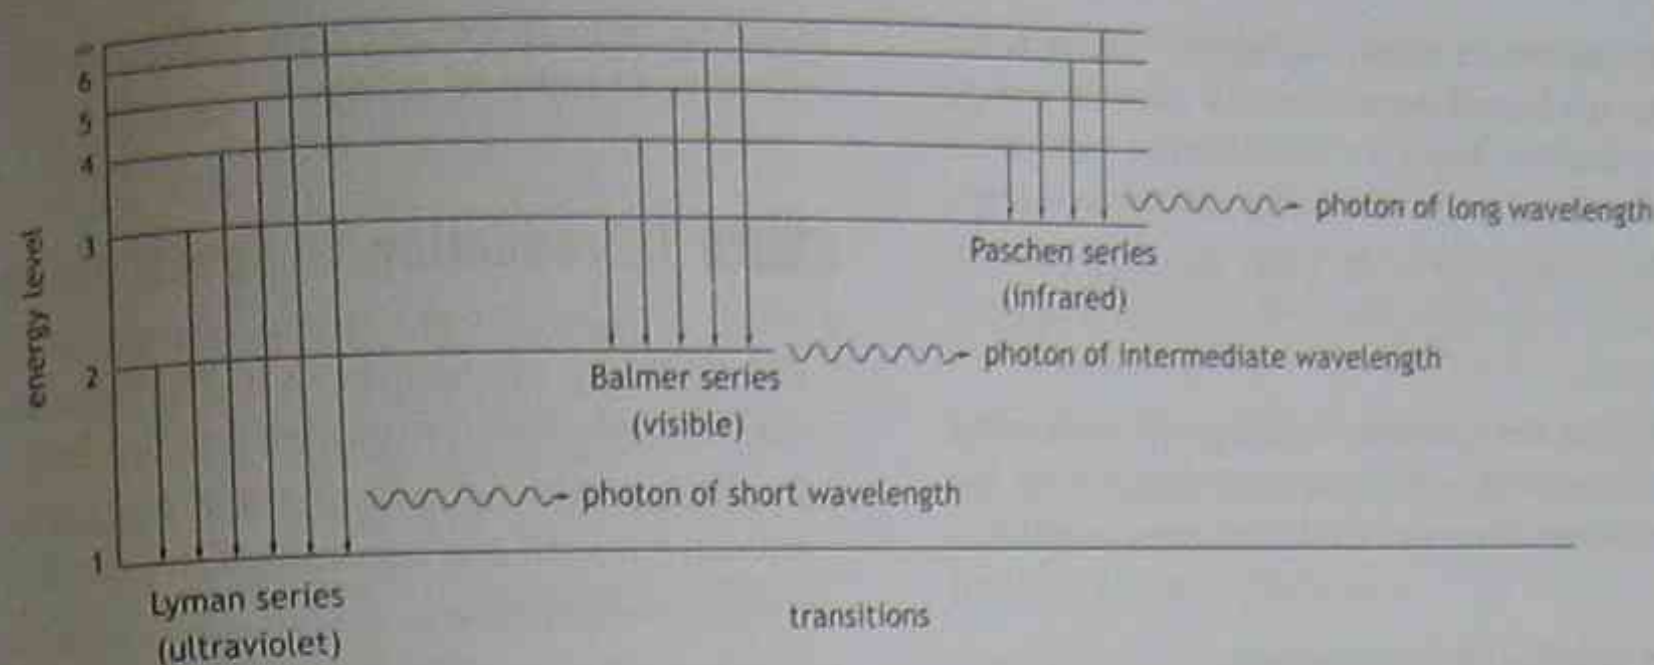

Figure 8.5 Energy level transitions for hydrogen
- The hydrogen spectrum has sets of lines in the infrared, visible and ultraviolet regions, which are usually detected by photography (see Figure 8.5).